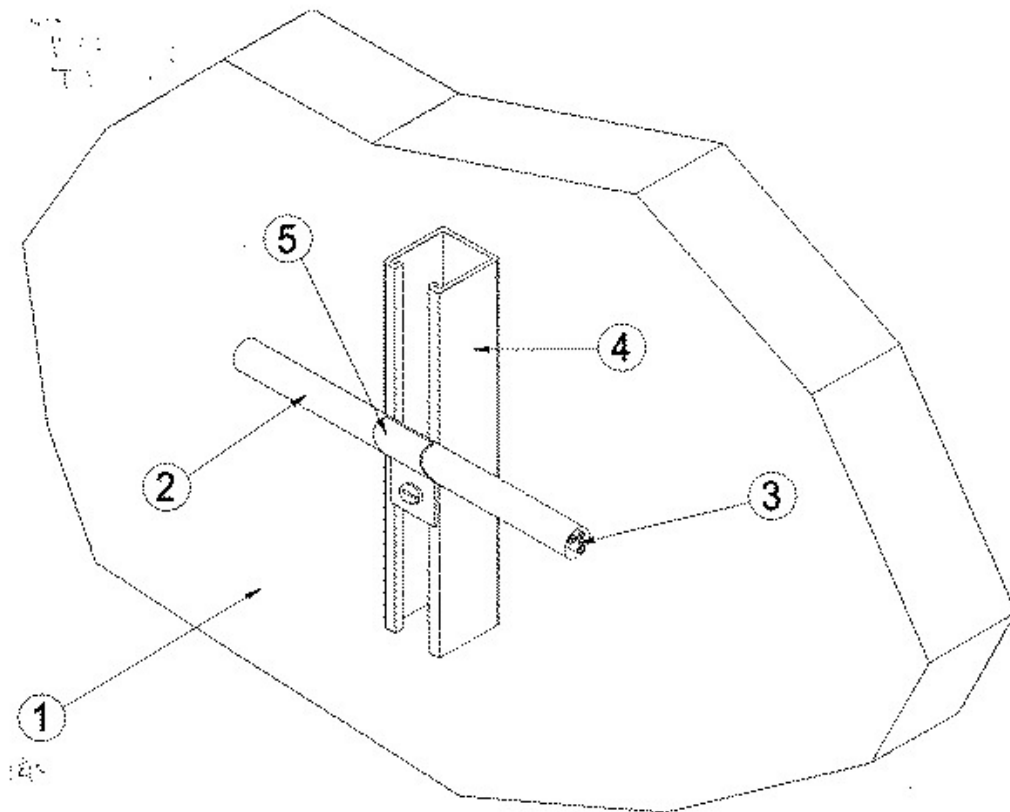

Fig. 1
4. Supports — (Figure 1) - Min 12 gauge, by 1-1/2 in. wide or 1-5/8 in wide, painted or unpainted, slotted steel channels with hemmed flange edges. Channel bottom with or without holes. Lengths of slotted steel channels 5 ft and less shall be secured to the wall or floor with a min of two 1/4 in. diameter (or larger) by 2-1/4 in. min long concrete screws, or 1/4 in. diameter (or larger) by 1-3/4 in. long min steel masonry anchors. One screw or anchor to be located at each end of the slotted steel channel. Lengths of slotted steel channel in excess of 5 ft require a min of three screws or anchors, one at each end of the channel and one centrally located within the length of the channel. The supports shall be spaced a maximum of 5 ft. OC. When installing cable(s) in vertical runs, the maximum distance of cable within EMT shall be 37 ft. between terminating points.